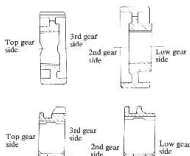

Fig. 8-15
2. Make sure that the high speed and low speed synchronizer sleeve are installed with their shift fork grooves facing toward the higher speed gears (top or second) as shown in the Fig. 8-15.